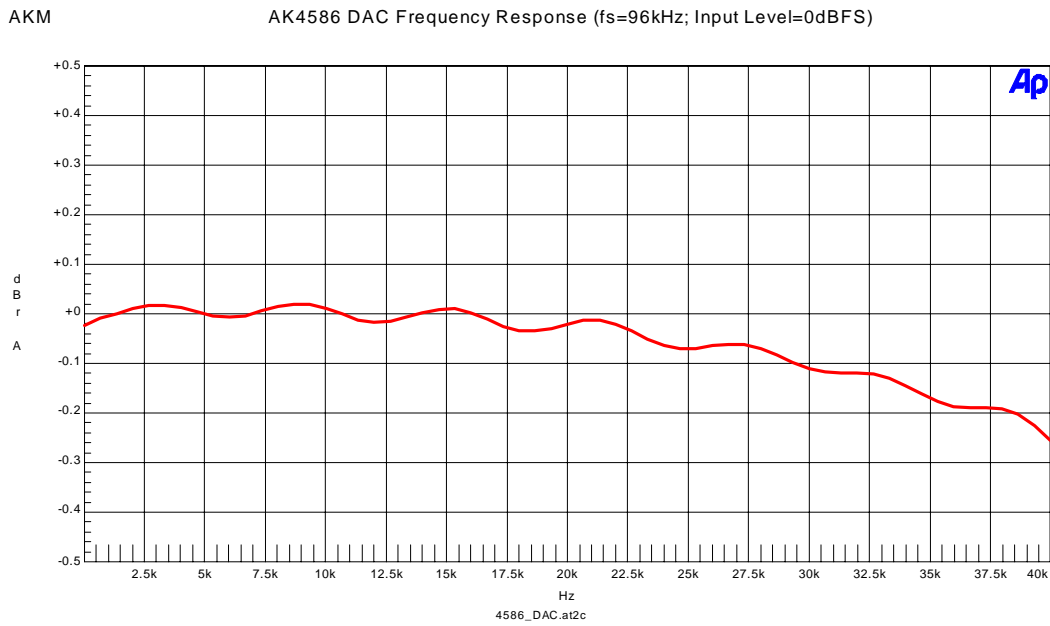

Figure 4-9. Frequency Response (Input Level=0dBFS)
- Figure 4-9. Frequency Response (Input Level=0dBFS)